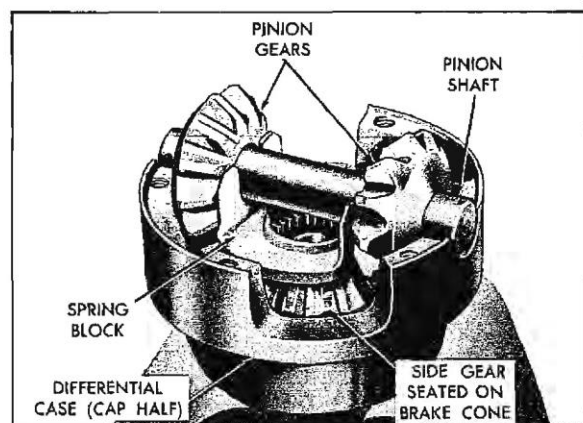

Fig. 4-51 Installing Parts in Cap Half
5. Insert springs into spring thrust block that is already installed into case and then place second thrust block over springs. Note offset construction of thrust block tabs (Fig. 4-51).